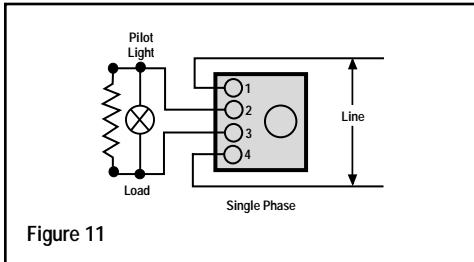

Figure 11
2. Connect wires according to wiring diagrams (Figure 11 thru